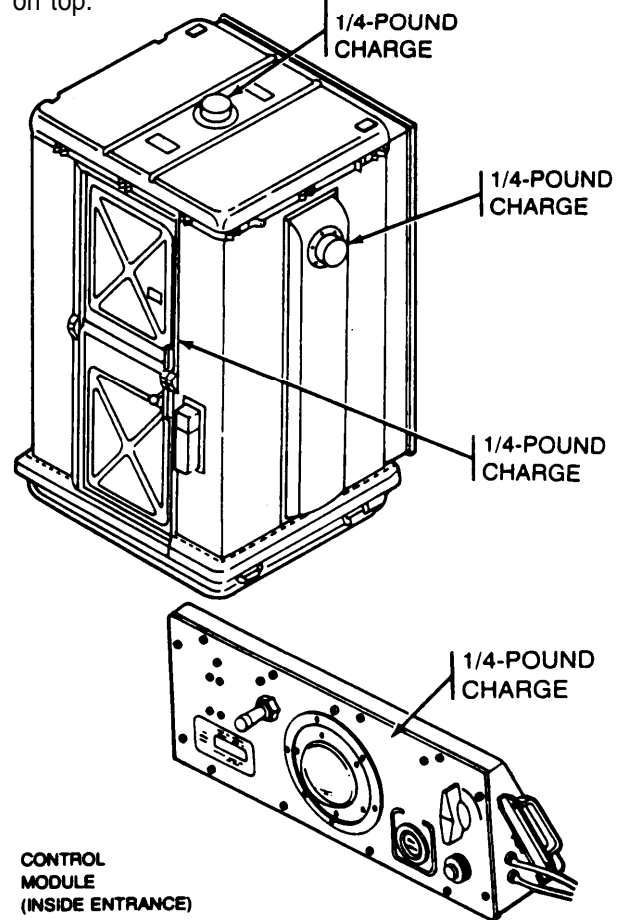

Figure 3-24. Explosive Charge Locations for M10/M12 Protective Entrance.
- (1) Control module
- (2) Fabric enclosure and frame
**d. Demolition (para 2-11).** Place 1/4-pound charges on door, in each air duct port, and on control module inside entrance port (fig 3-24). Detonate charges at the same time.